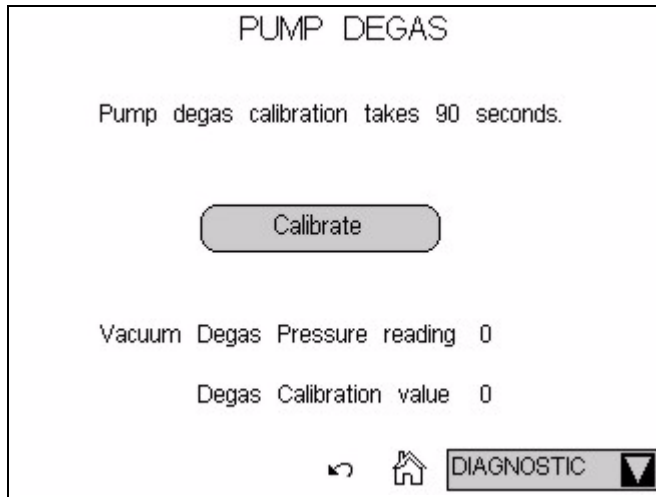

Figure 5-6. Pump Degas Page
1. Open the ICS-2000 Wellness Panel in Chromeleon (see Section 5.1.1), or open the ICS-2000 touch screen **PUMP DEGAS** page (see Figure 5-6).